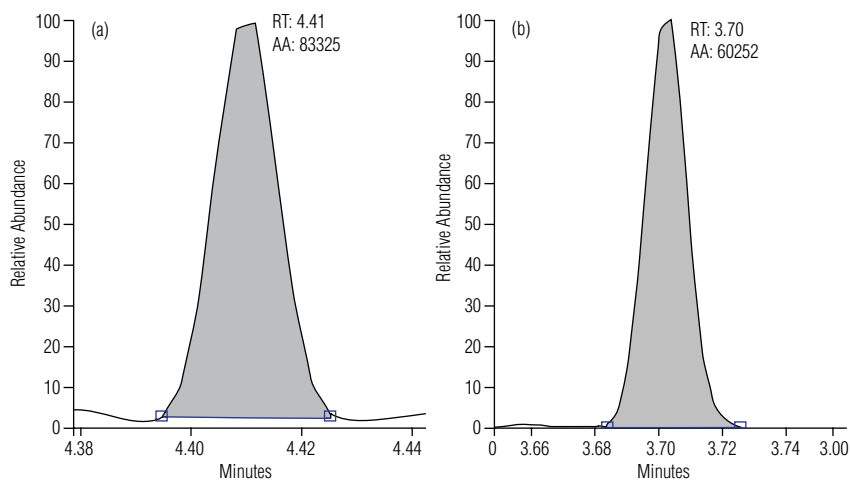
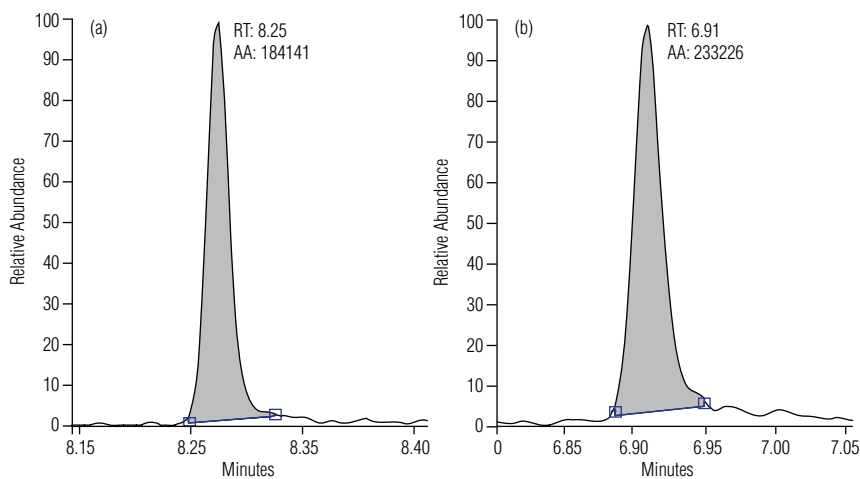
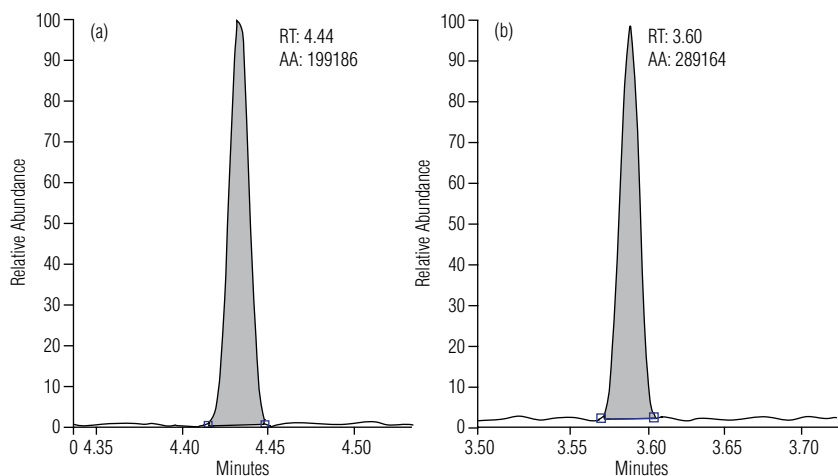

Figure 1. Injection of 1 pg/ $\mu$ L OFN in EI mode results in S/N of at least 100:1 for hydrogen (a.) vs. 600:1 for helium (b.).
Figure 2. Injection of 100 pg/ $\mu$ L benzophenone in CI mode results in S/N of at least 300:1 for both hydrogen (a.) and helium (b.).
Figure 3. Injection of 200 fg/ $\mu$ L OFN in CI mode results in S/N of at least 600:1 for both hydrogen (a.) and helium (b.).
The system sensitivity was such that a 1 μL injection of 1 pg/μL standard yielded a signal-to-noise (S/N) ratio of at least 100:1 (Figure 1) for octafluoronaphthalene (OFN) in EI mode. Chemical Ionization (CI) yielded S/N of at least 300:1 (Figure 2) and 600:1 (Figure 3) for 100 pg benzophenone and 200 fg OFN respectively.